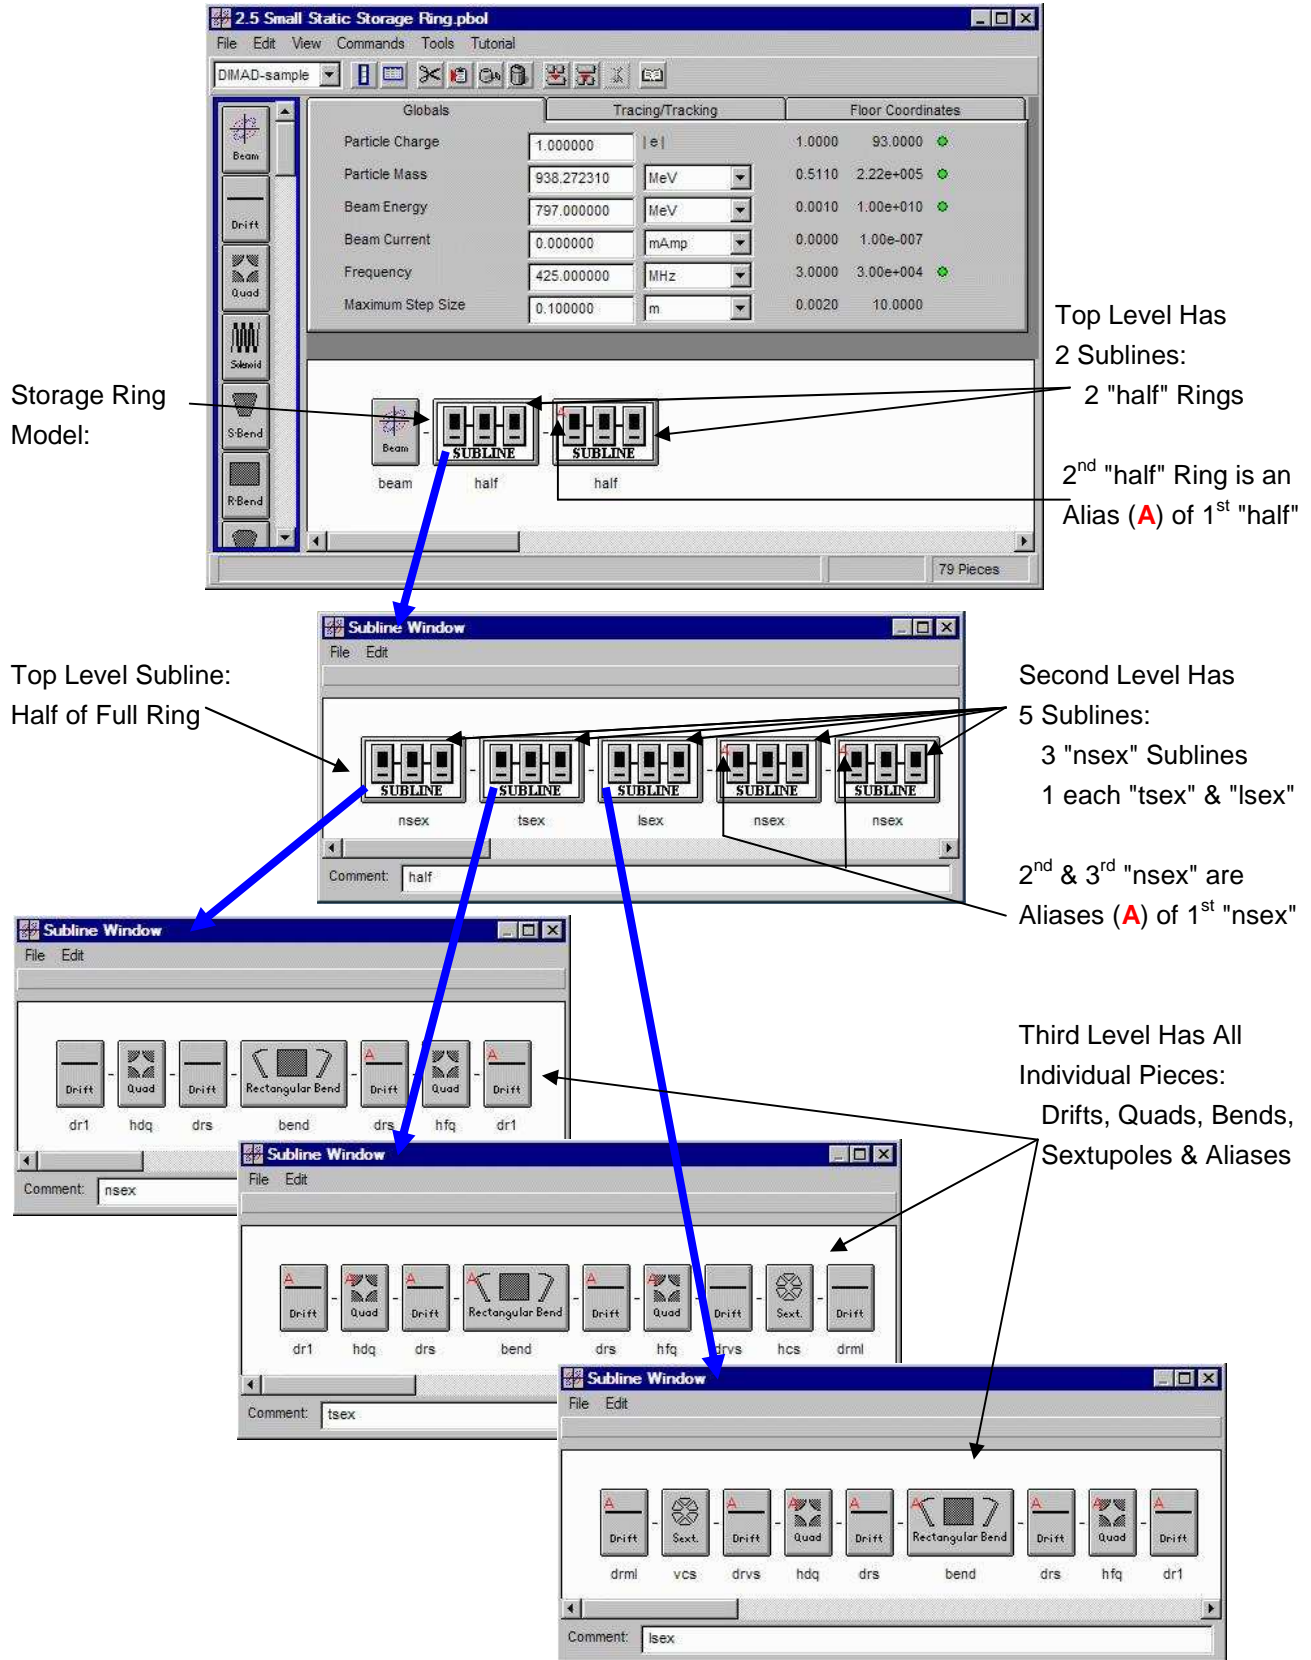

Figure 71. PBO Lab storage ring model with nested sublines.
It is instructive to illustrate an example of how a PBO Lab beamline with nested sublimes will appear in the Lattice and Lines section of the Main Input File when using the DIMAD-sample OModule. Figure 71 shows a PBO Lab Model ("2.5 Small Static Storage Ring") together with a view of the nested sublimes.
Each of the sublines appearing in Figure 71 is represented by a MAD-type LINE statement in the DiMadInput file. As with unique Pieces, the Auto Generate Labels attribute results in unique labels for each of the four (4) non-Alias sublines: LSEX_0005, TSEX_0004, NSEX_0003, HALF_0002. These, together with the full beamline label LINE_0001, are used in the Lines section of the DiMadInput file, per the syntax specification shown in Figure 69.